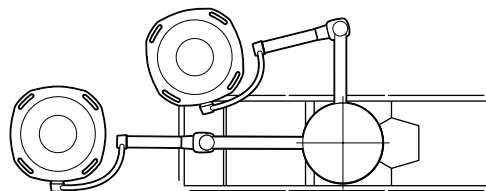

Figure 14.
The large diameter lighthead should be positioned at the end of the table for perineal procedures. Locate the radial arm directly in line with the centerline of the table. Once the surgeon has assumed a seated position, the lighthead can be pulled down, angled, and adjusted to provide the necessary illumination over the surgeon's head and shoulders. See figure 14. The satellite lighthead radial arm should be positioned approximately 90° from the other radial arm. Position the satellite lighthead to the right or left of the large lighthead according to surgeon preference. In this position, the focus knobs of both lightheads are located for easy reach by non-sterile personnel.
c. Check the adjustment for the flatscreen monitor pitch axis. The monitor should move freely yet maintain its selected position without drifting. If an adjustment is necessary, refer to figure 14 and proceed as follows: